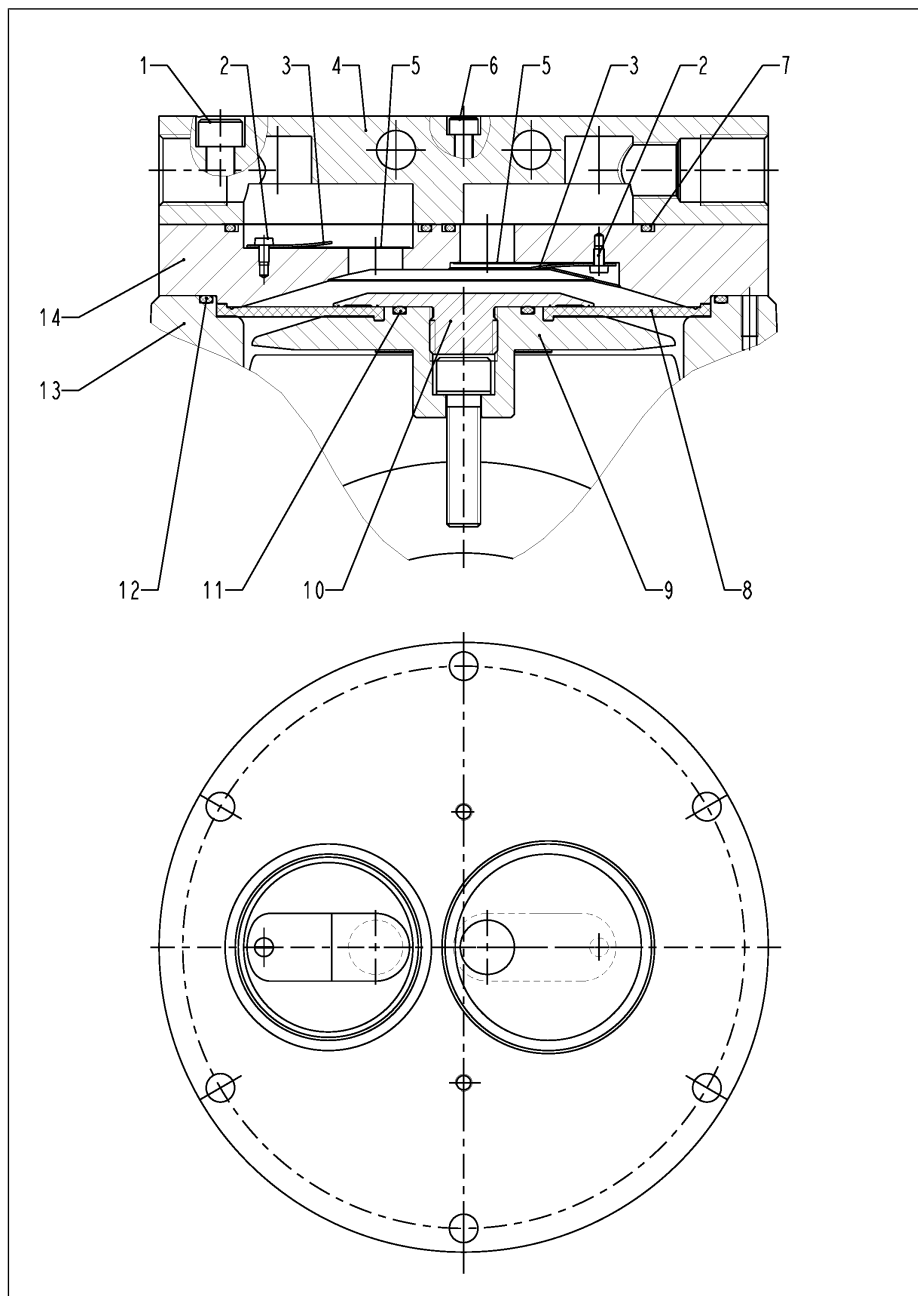

Fig.10 Individual parts of the pump head
\*\* Acc. to Fig. 10
**i** The following item numbers refer to Fig. 10 unless specified otherwise.